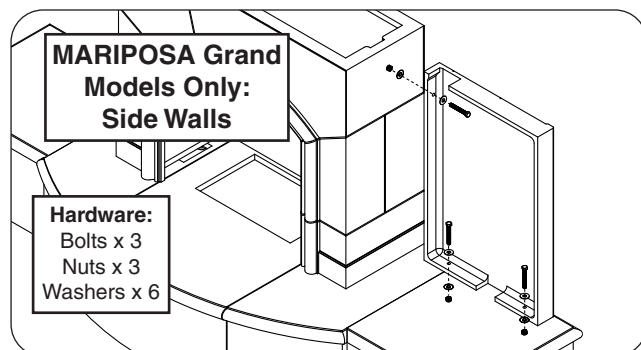

Fig. 25-1 Assemble rear side-wall (skip if n/a)
2. Place the rear side-wall piece beside the fireplace body as shown. Carefully align the pilot holes, and repeat the hardware installation process. See Fig. 25-1.